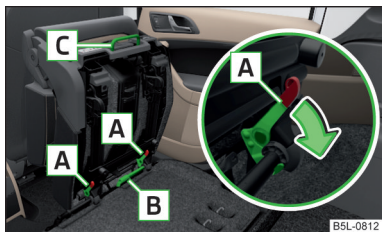

Fig. 73
- › Unlock the folded seat by pressing seat locks **A** in the direction of arrow » Fig. 73.
- › Fold the outer seat forwards » page 81 and unlock » Fig. 73 on page 82.